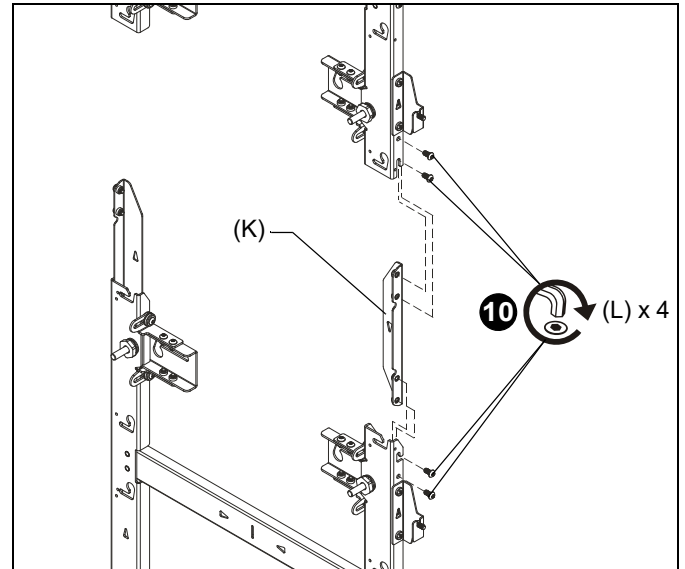

Figure 9
- Add the vertical connector (K) to the top or bottom of the mount, and fasten with two 1/4-20 x 1/2" button head cap screws (L) per vertical connector. (See Figure 9)